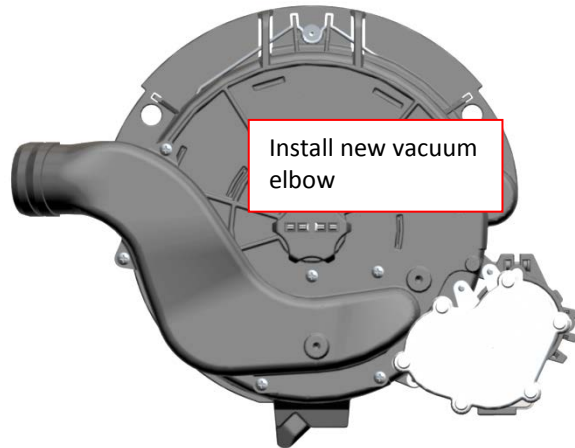

Figure 4b – New Meter Vacuum Elbow
- b) Install the new vacuum elbow from the finish kit. Reuse the hardware removed in the previous step. Refer to figure 4b.